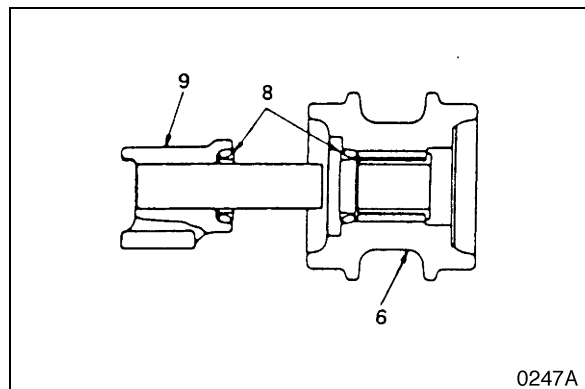

Figure 47
2. Insert group seal (8, Figure 47) into roller (6) and bushing.